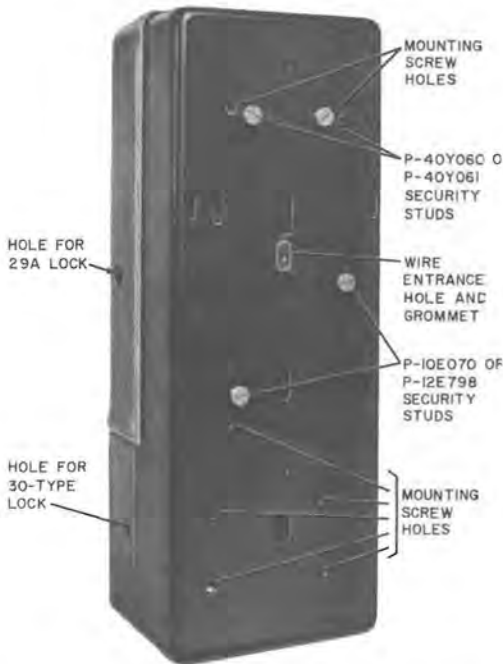

Fig. 3—Location of Mounting Screw Holes and Security Studs in 1C-Type
- 2.05** Refer to Fig. 3 and 4 and Tables B and C for security stud requirements.